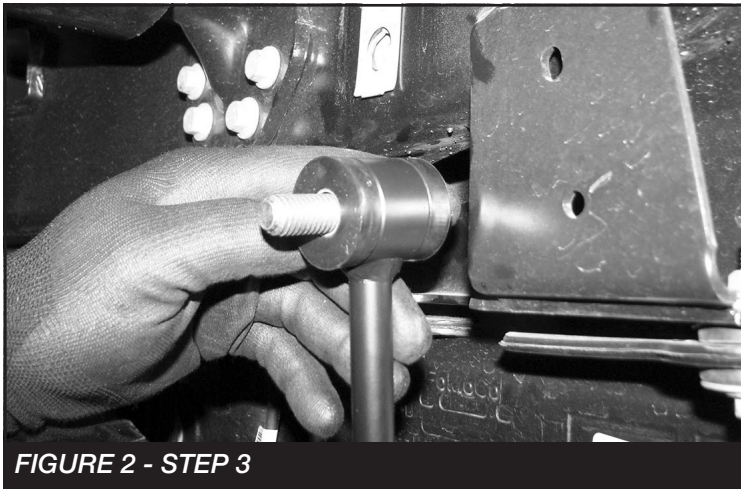
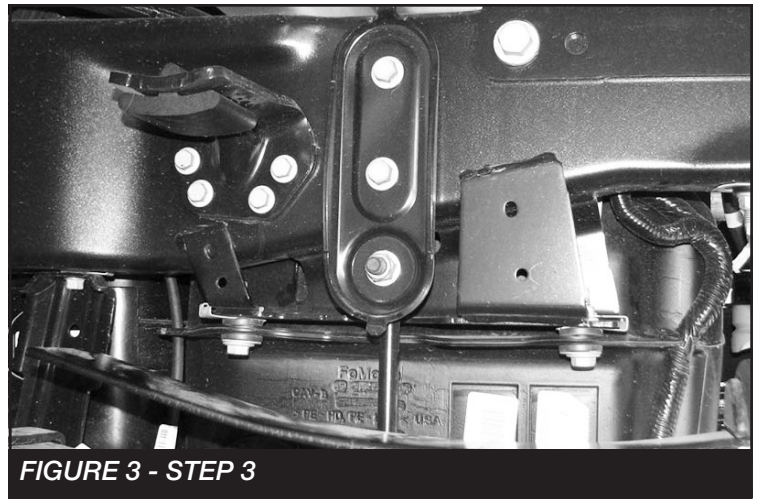

FIGURE 2 - STEP 3
FIGURE 3 - STEP 3
3. Install the FT1004 (Bushings) and FT50089 (Sleeves) into both FT30784 (End Links). Install the new end links to the factory brackets using the supplied 1/2" X 2-1/2" hardware. **NOTE: Install the bolt from the back side. SEE FIGURE 2** Install the brackets/Tie rods to the frame and sway bar using the factory hardware for the frame mount and the supplied 1/2 X 2-1/2" hardware at the sway bar location. Torque to 127 ft-lbs. **SEE FIGURE 3**